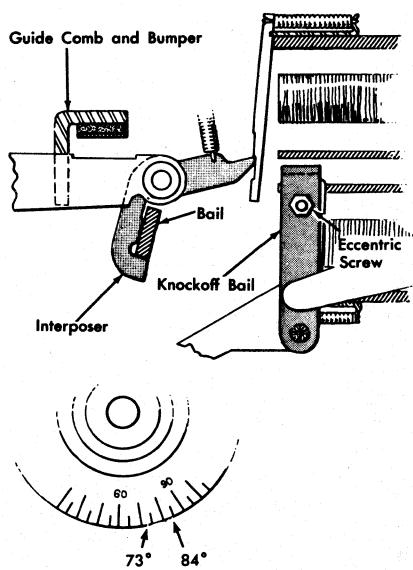

Figure 56. Magnet Unit Adjustment
1. Install magnet unit with reasonable unlatching clearance as a preliminary step. Make screws finger tight and restore all but four interposers across unit. Manually rotate index clockwise; unlatched interposers, in their downward motion, should start to enter their armature notches at 65° and all should be in their notches by 73° . On the IBM 56 without error retention, interposers should enter notches at 73° and all should be in the notches by 84° (Figure 56). The space interposer movement varies from that of other interposers but may not be later than 90° .